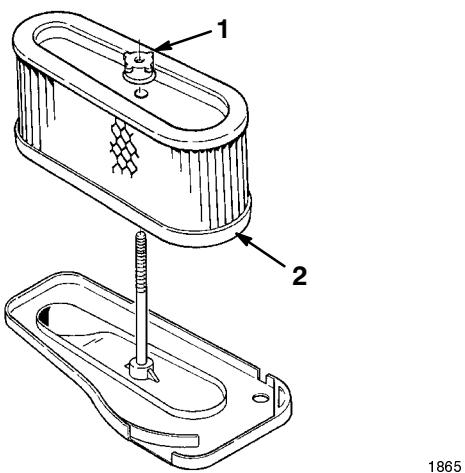

Figure 25
5. Unscrew the rubber nut and remove the paper element (Fig. 25).
2. Slide the air cleaner assembly onto the long rod. Now screw the rubber nut finger-tight against the air cleaner (Fig. 25).